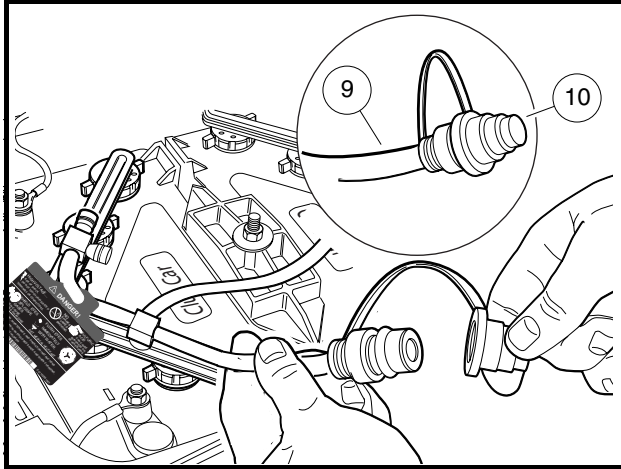
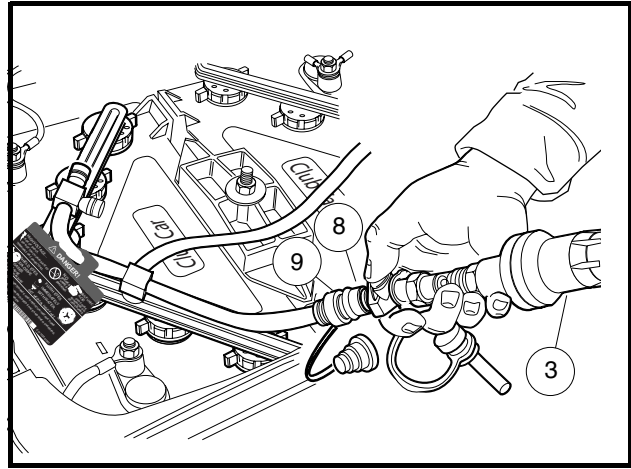

Figure 31 Dust Cap
Figure 32 Connecting Hose-end Assembly to Battery Fill Connector
1. Locate the battery fill coupling (9) on the driver side of the battery compartment, remove the dust cover (Figure 31), and connect the hose-end assembly (Figure 32). The water flow will begin immediately.
3. When the red flow indicator balls stop moving, immediately press the grey button to disconnect the hose-end assembly from the battery fill coupling, and squeeze the dust cover to lightly secure it to the male connector (Figure 31).